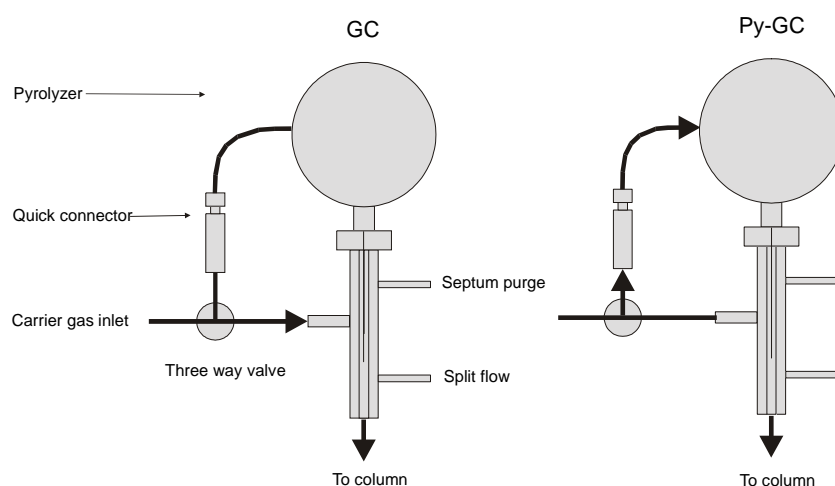

Figure 2-2. Three way valve in position GC and Py-GC, respectively.
The process unit of the Pyrola 2000 system is connected to the injector of your GC via an injection needle (10). It is equipped with a three-way valve that diverts the carrier gas either directly to the GC or through a quick connector (3) to the process unit. The three-way valve is shown in Figure 2-1, and its operation is shown in Figure 2-2.